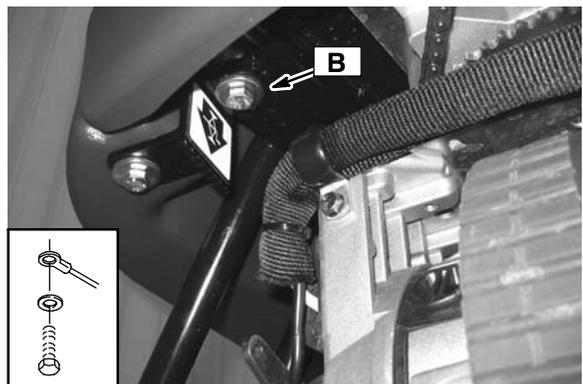

Fig. 9
13. Attach opposite end of the ground wire to the jack bracket bolt (B) as shown (Figure 9).